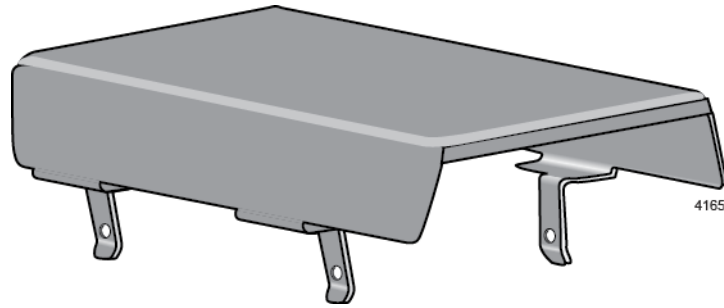

Figure 12. Optional Drip Guard
Allied Telesis offers an optional drip guard for the switch. Refer to Figure 12. The switch with the drip guard has an ingress protection (IP) code of IP31.